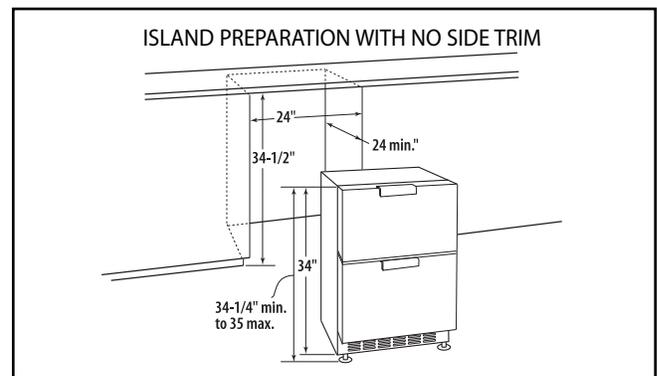

Fig. 04a
- The adjacent cabinets and counter top can be built around the unit as long as no top trim or counter top is installed lower than the top of the upper drawer. See Fig. 04a.
- Determine the minimum height of the counter top opening (Fig. 04a).
- Lower the front and rear leveling legs (Fig. 04a) so the top of the drawer cabinet is 1/8" lower in the back of the cabinet and 1/2" lower in the front of the cabinet than the counter top opening.